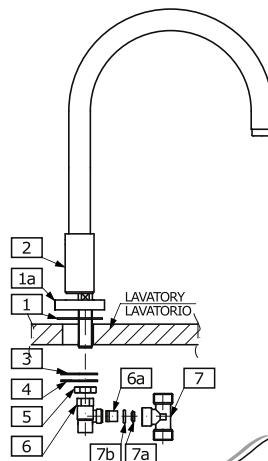

FIG. 4b
See fig. 4b
● Screw on the diverter (6) with check valve (6a) onto spout shank. Make sure that the nozzle (7a) and seal o-ring (7b) are inside of the T-connection (7). Next screw on the T-connection (7) onto diverter (6) as shown in (fig. 4b) firmly but do not overtighten.